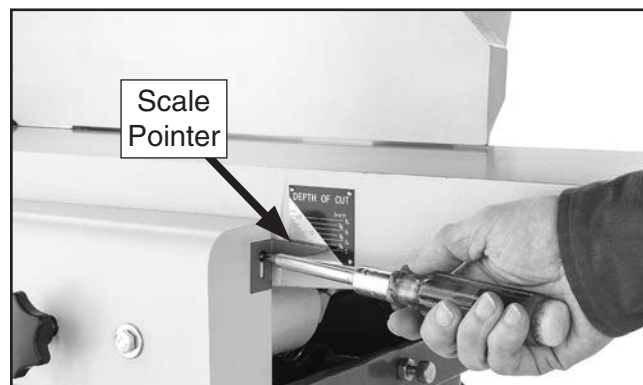

Figure 48. Adjusting scale pointer to "0".
5. Precisely adjust scale pointer to "0", as shown in **Figure 48**.